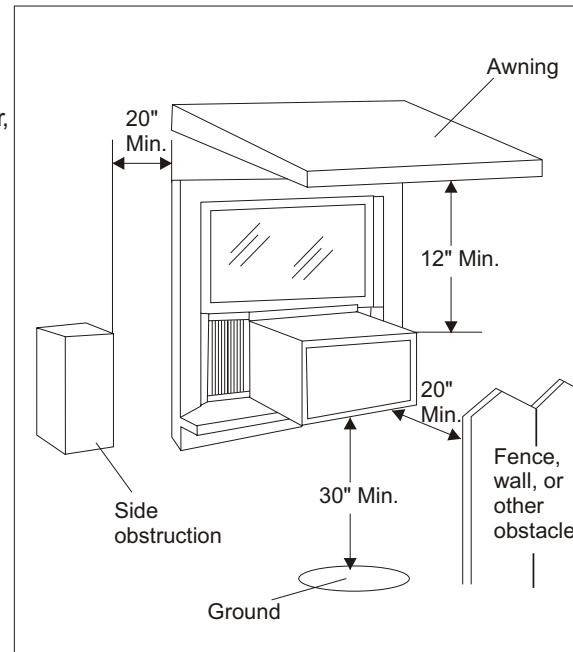

Fig.2
D. Provide sufficient clearance around the cabinet to allow for ample air circulation through the unit. See (Fig.2). The rear of the unit should be outdoors and not in a garage nor inside of a building.